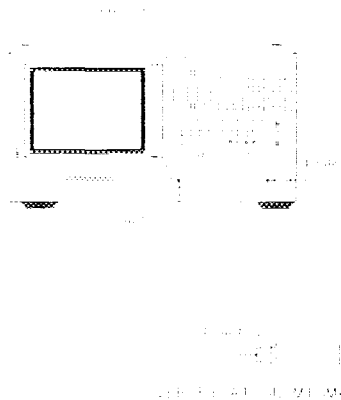

Figure 2-6. Mismatch Device Verification Setup
- 6 When all measurements are complete, replace the verification device with the verification mismatch, as shown in Figure 2-6. Be sure that you connect Port A of the verification mismatch to reference test port 1.